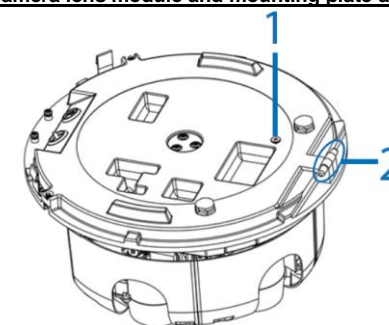
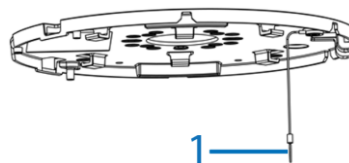
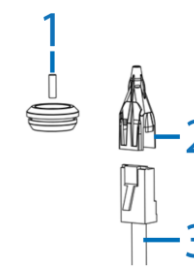
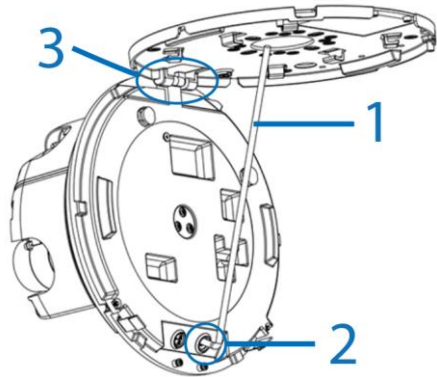

Figure 10
Figure 9
Figure 11
Figure 12
- Insert the 'hinge pins' (2) (Figure 10) on the camera module lens into the 'hinge knuckle' on the mounting plate. **'3' in Figure 12 identifies where the camera lens module and mounting plate attach.**
- Insert the RJ-45 cable (3) (Figure 11) into the insert tool (2) (Figure 11) remove the rubber grommet (2) (Figure 12) from the camera lens module.
- Pierce the rubber grommet (1) (Figure 11) by passing the insert tool and cable through the center of the rubber grommet.
- Hold the camera lens module up to the mounting plate and insert the 'loop' on the safety lanyard (1) (Figure 9) that is attached to the mounting plate to the screw (1) (Figure 10) on the camera lens module.
- Pass the insert tool and cable (1) (Figure 12) through the rubber grommet hole (2) (Figure 12) on the camera lens module.